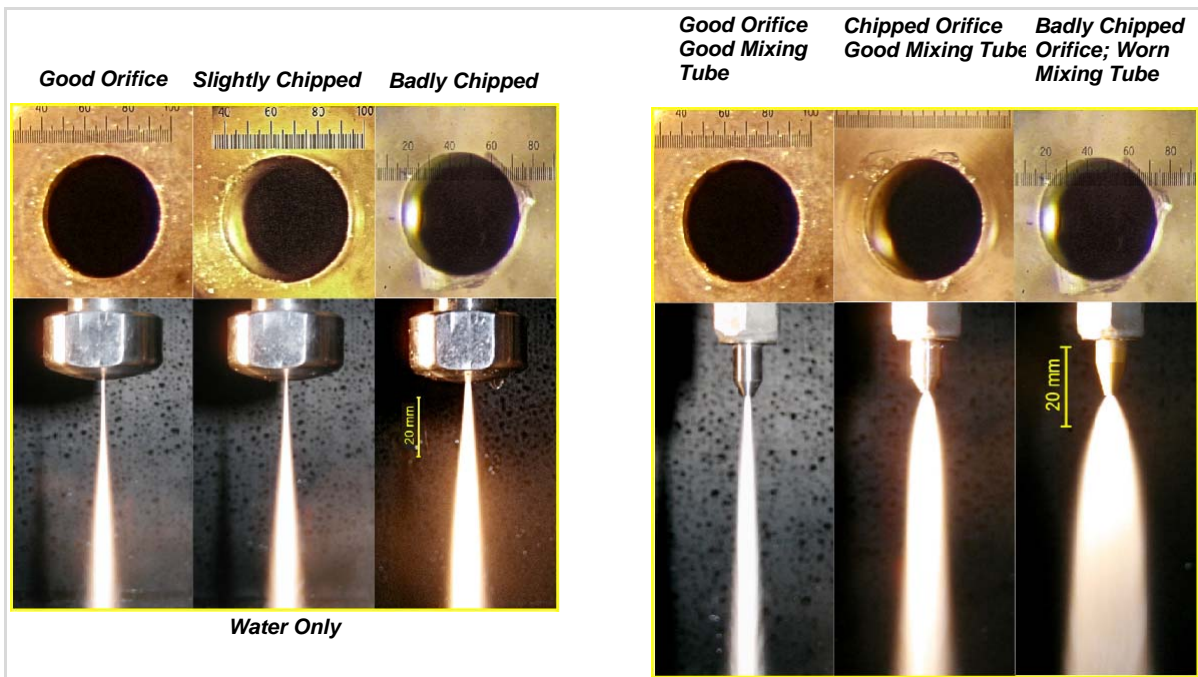

Figure 4-21: Comparison of Jet Streams with Different Jewel and Mixing Tube Conditions
- d. Refer to Figure 4-21 to compare the effect that a damaged orifice and worn mixing tube have on the quality of a nozzle's jet stream.